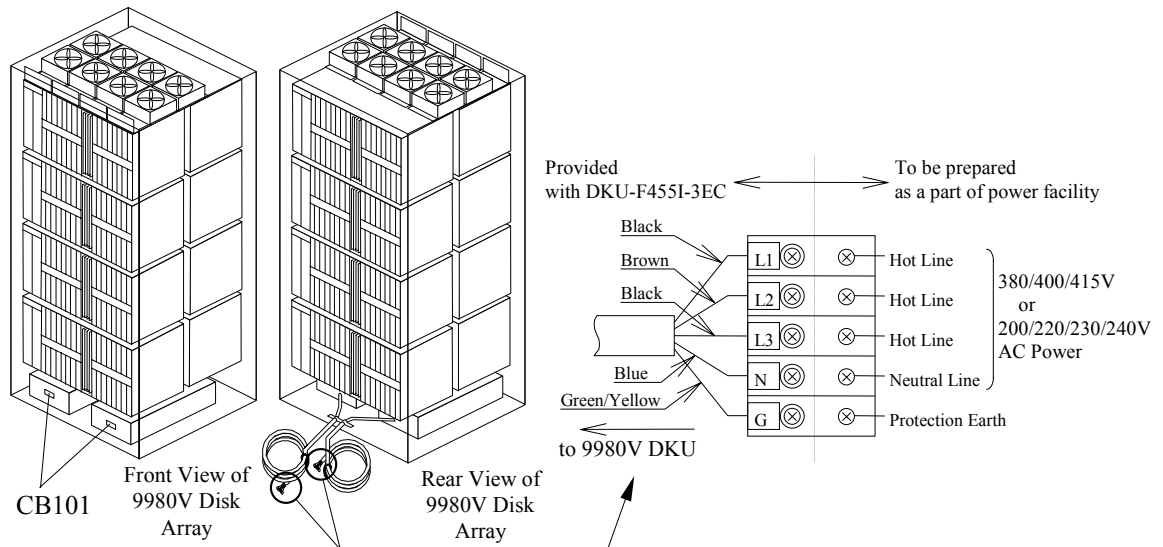

Figure 5.17 Power Plugs for Three-Phase 9980V Disk Array Unit (Europe)
- Figure 5.17 illustrates the power plugs for a three-phase 9980V disk array unit (Europe).